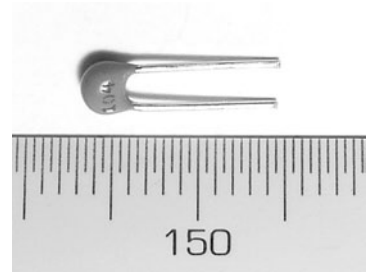
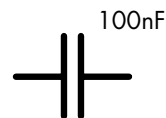

Figure 4-12: A 0.1  $\mu\text{F}$  ceramic capacitor
Figure 4-13: A nonpolarized capacitor schematic symbol, with the capacitor's value shown at the upper right
Reading the value of a ceramic capacitor takes some practice, because the value is printed in a sort of code. The first two digits represent the value in picofarads, and the third digit is the multiplier in tens. For example, the capacitor shown in Figure 4-12 is labeled *104*. This equates to 10, followed by four zeros, which equals 100,000 picofarads/pF (100 nanofarads [nF], or 0.1 microfarads [ $\mu\text{F}$ ]).
*Ceramic capacitors*, such as the one shown in Figure 4-12, are very small and therefore hold a small amount of charge. They are not polarized and can be used for current flowing in either direction. The schematic symbol for a nonpolarized capacitor is shown in Figure 4-13.